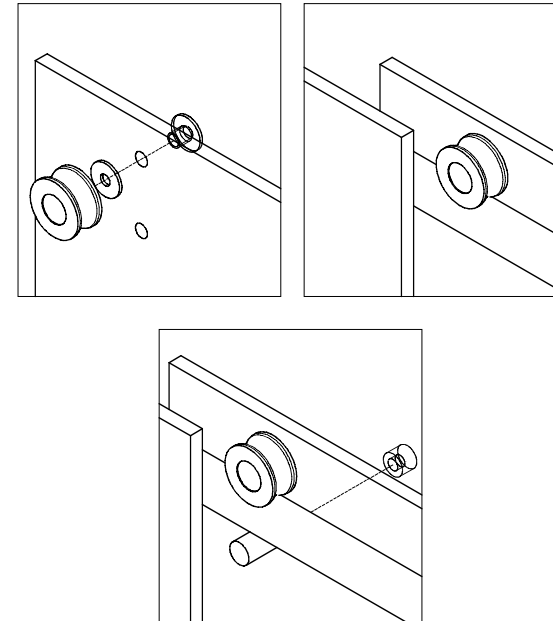

Figure 6
11. Affix the Rollers (04) to the Glass Panel (05). Hang the Rollers onto the Top Guide Rail (03) to suspend the door. Slide the lower edge of the Glass Panel into the groove found on the Guide Block (12). Make necessary adjustments to the fasteners to guarantee the lower edge of the Glass Panel does NOT touch the bottom of the Guide Block. Secure the door to the Top Guide Rail by mounting the two Roller Guards (20) on the door.
12. See Step 8 for details on cutting the Threshold Cover (14) to size. Place the Threshold Cover onto the threshold while the door is open. Refer to Figure 6 for details.
13. Attach the Water Proof Strip (17) to the vertical edges of the Stationary Glass (02) and Glass Panel (05). Press the Bumper Strip (13) onto the vertical edge of the Glass Panel. Affix the Handle (06) to the Glass Panel. Make necessary adjustments to each Door Stopper (01) to guarantee they are positioned upright and the Glass Panel allows for optimal range for opening and closing. Fasten the screws in place by tightening them.